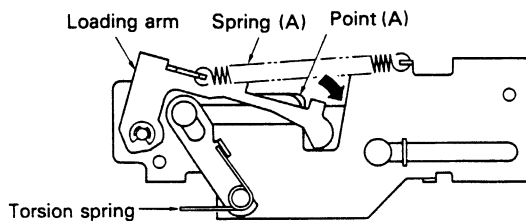

Fig. 13
2. When the cassette guide reaches point (A) (Figure 13), a downward force is applied to the loading arm. At this point, spring (A) forces the loading arm to rotate downward at its fulcrum, dropping the cassette into place. In this manner, loading is accomplished.